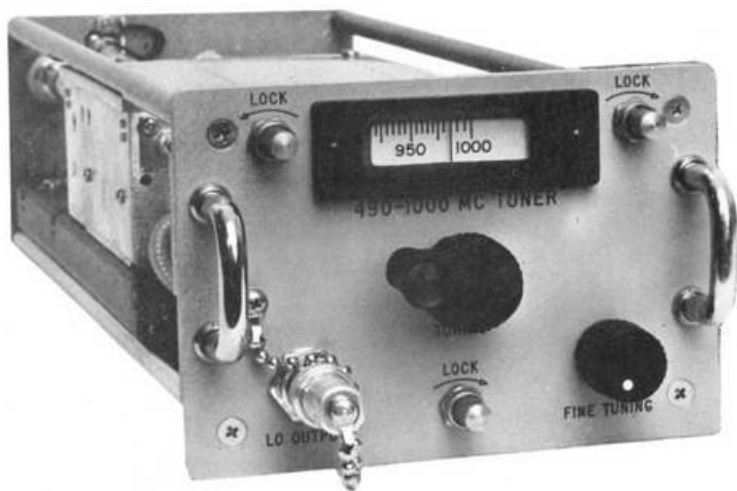

Figure 1-1. Radio Frequency Tuner TN-519/WRR
A. RF Tuner TN-519/WRR, Figure 1-1
B. RF Tuner TN-520/WRR, Figure 1-1